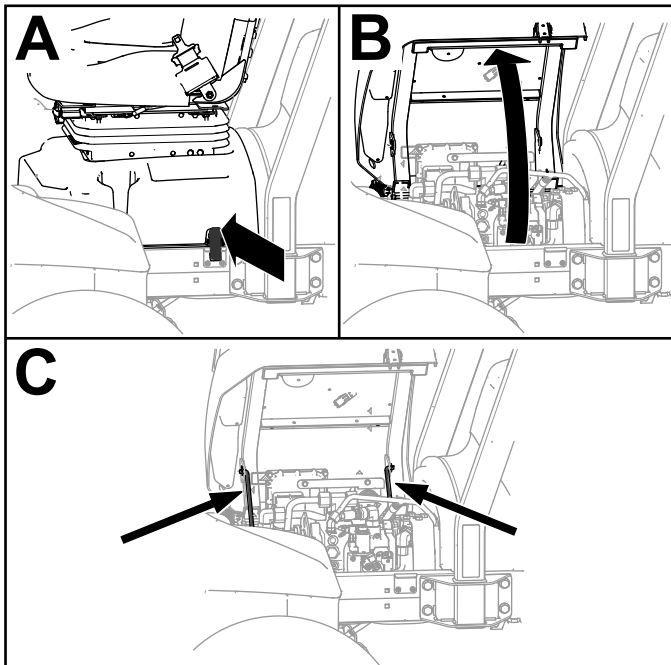

Figure 39
1. Unlatch the seat base (A of Figure 39).
2. Tilt the seat and base open (B of Figure 39).
3. Support it with the prop rods (C of Figure 39).